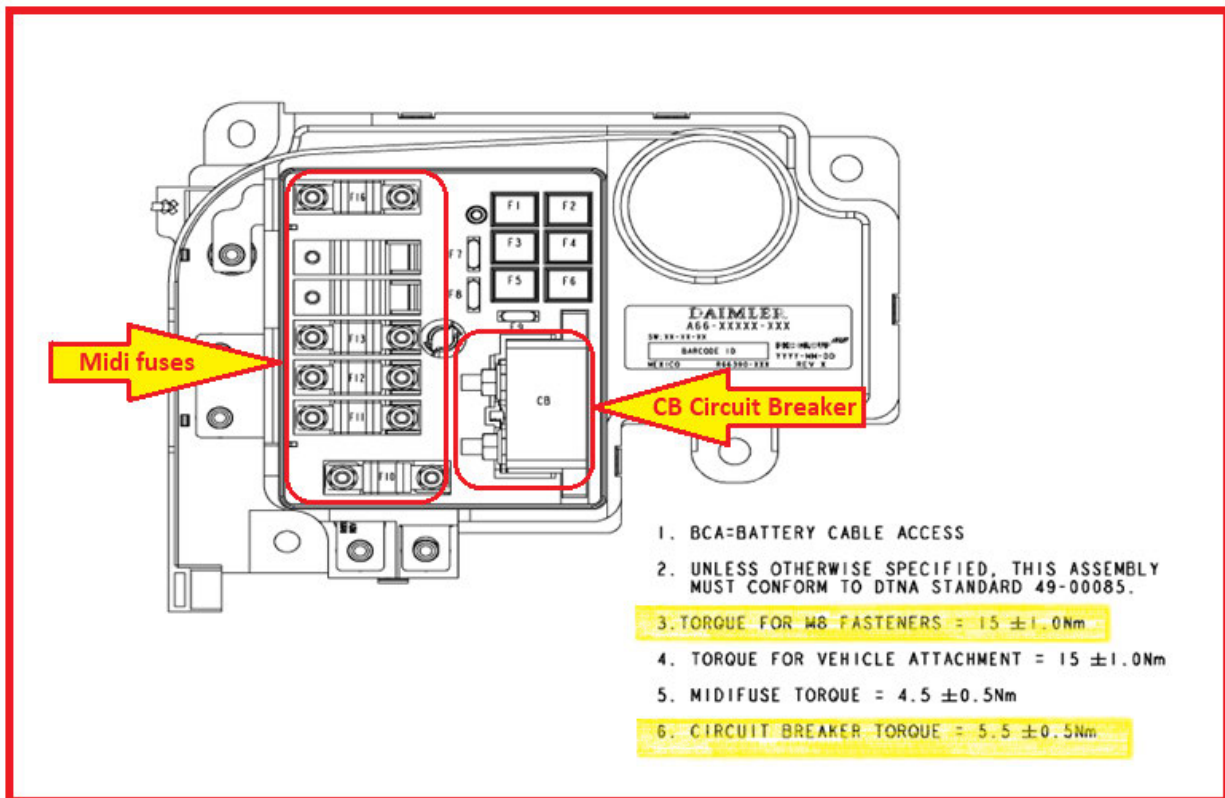

Fig. 4, CB Circuit Breaker and Midi Fuse Torque
<p>Remove BCA cover and ensure that both circuit breaker (CB) nuts and Midi Fuses are torqued to spec.: 5.5Nm for circuit breaker, 4.5Nm for Midi Fuses. Reinstall cover. See Fig.4.</p>